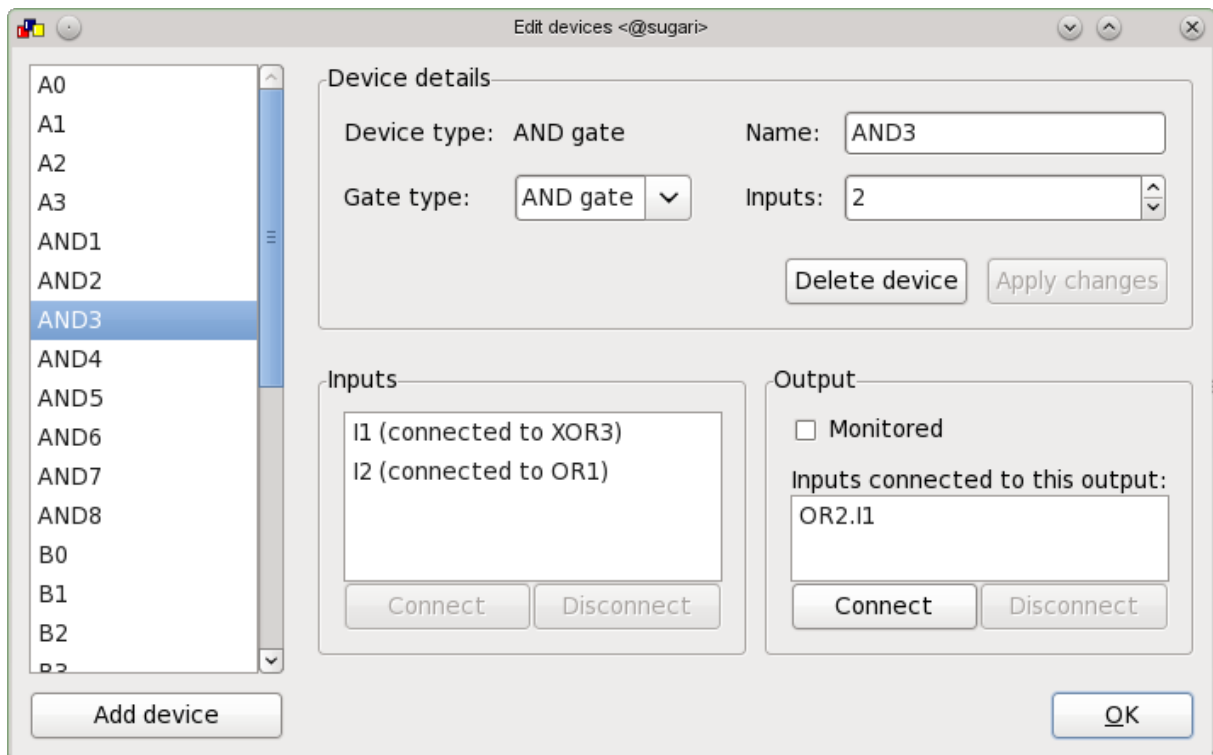

Figure 2: GUI for editing devices
**Editing devices.** Click the edit devices button on the right hand side. This will open a window allowing you to add, edit, or delete devices(see figure 2). Select a device to edit using the list on the left. The top panel allows device properties to be modified. The bottom panels show inputs and outputs for the selected device, and which devices are connected to it. They also allow connections to be added and deleted. All changes to devices and connections take effect immediately, except for changes to device properties, which must be confirmed using the “Apply changes” button.